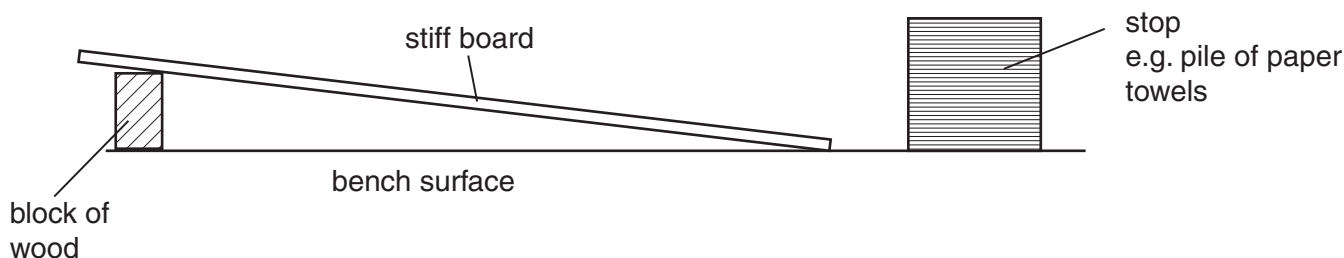

Fig. 1.1
- (vii) The apparatus is to be set up as shown in Fig. 1.1.